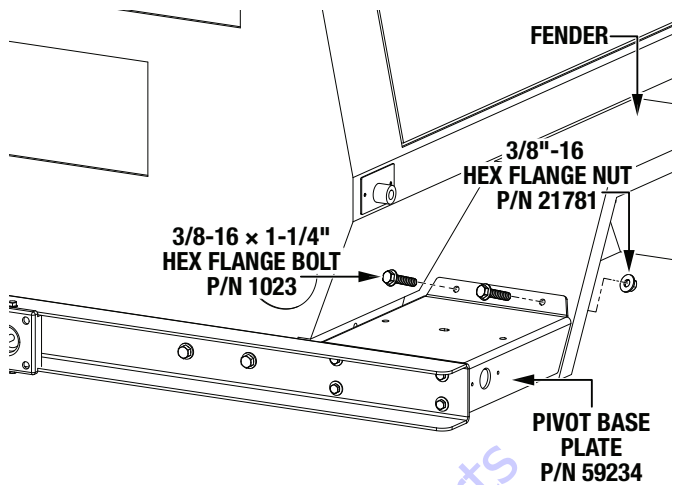

Figure 16. Secure Pivot Base Plate to Fender
3. Insert two 3/8-16 x 1-1/4" hex flange bolts (P/N 1023) through the new holes in the fender with two 3/8"-16 hex flange nuts (P/N 21781), and tighten securely. See Figure 16.